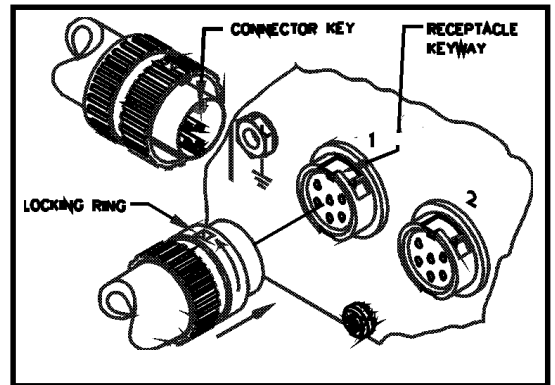

Figure 3. Handpiece Connection
9. Using Figure 3 as a guide, connect the handpiece(s) to the Power Source in the following manner: